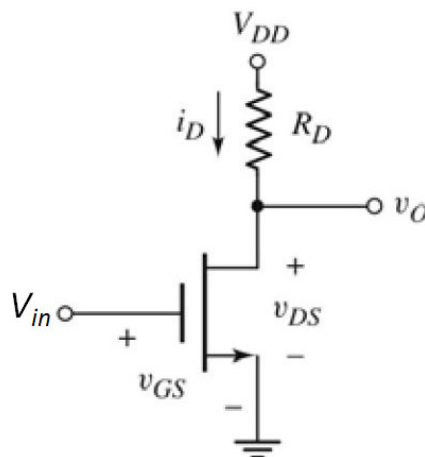

Fig. 1
1. Consider the 1R + 1 n-MOSFET circuit as shown in Fig. 1.